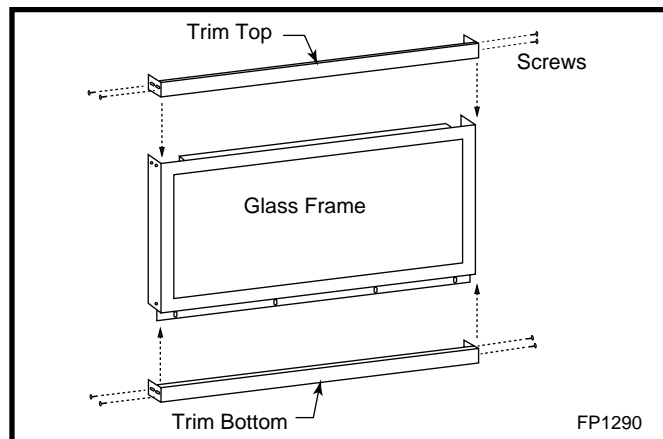

Fig. 27 Install top and bottom brass trim.
2. Install top and bottom brass trim by using the shortest black screw. (Fig. 27 & 28)